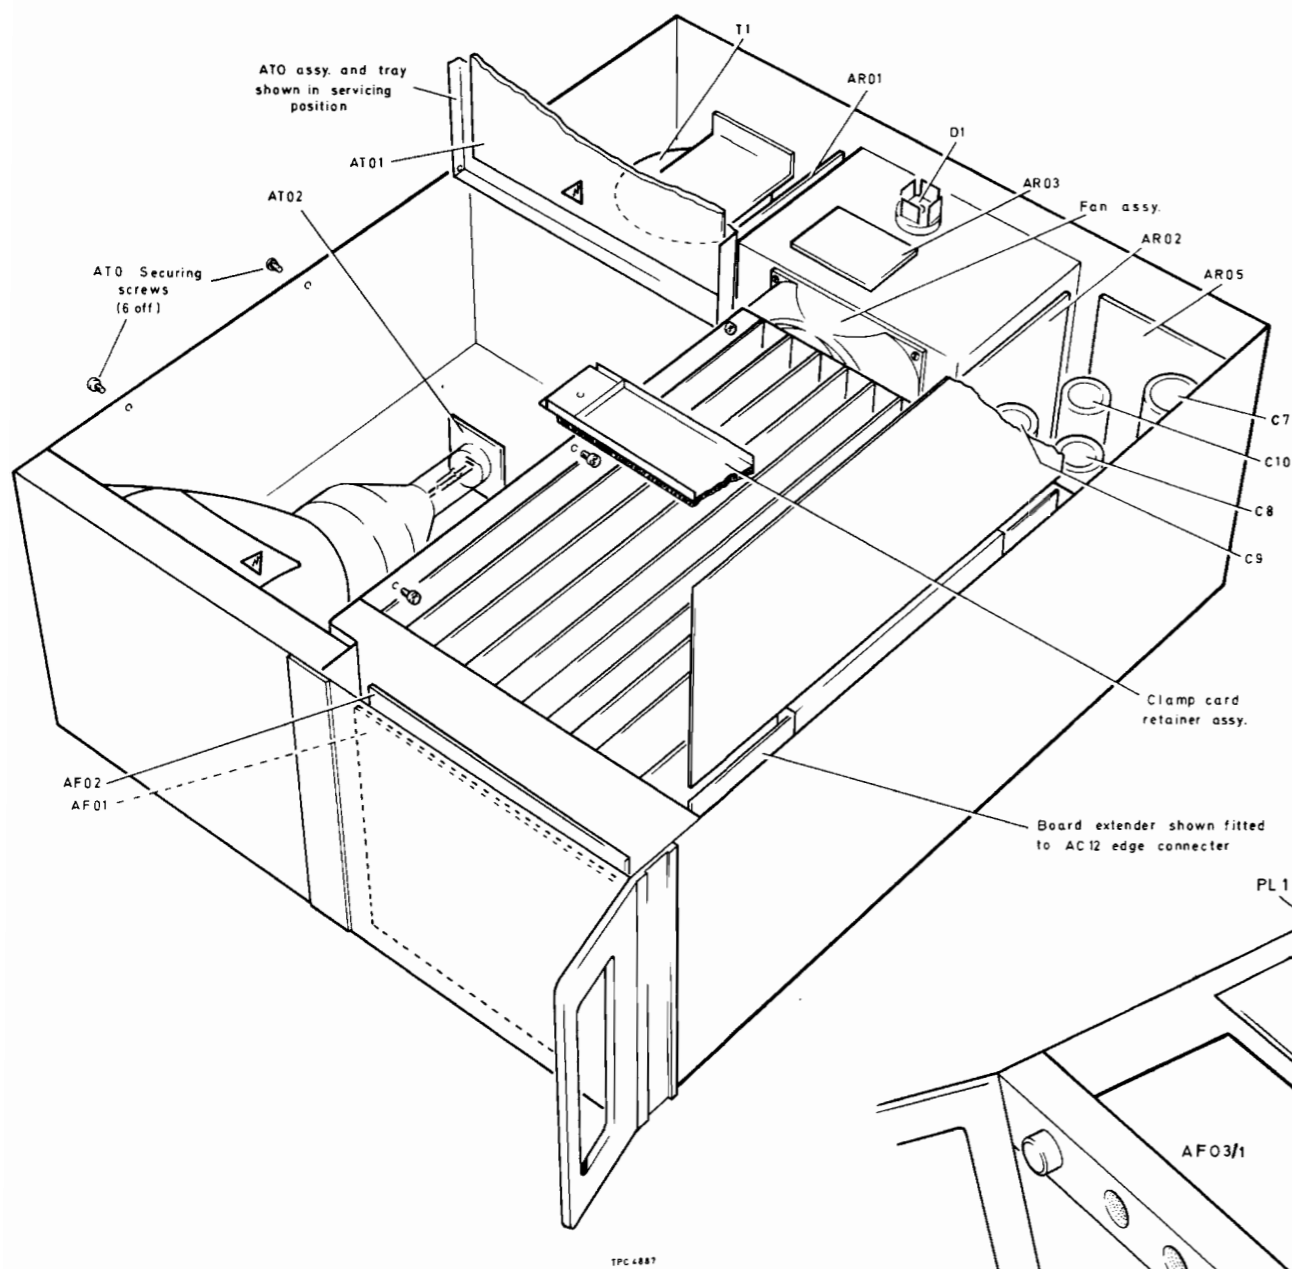

Fig. 1 Layout, top view.
Layout, top view, see Fig. 1
22. An extender board (offered as an Optional accessory) may be used to place the boards into the servicing position as shown in Fig. 1. Some boards will not operate correctly in such a position. Further information on this is given in the calibration procedures.